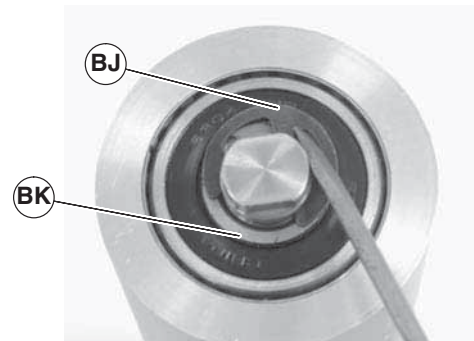

Figure 74
5. Remove the pulley shaft assembly: remove the clip ring (Figure 74, item BJ) and washer (BK) from one side of the pulley assembly.